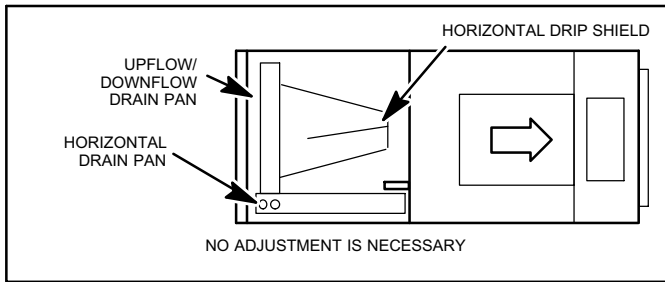

Figure 2. Right-Hand Discharge Configuration
2. No further adjustment is necessary. Set unit so that it is sloped 1/4 inch toward the drain pan end of the unit as illustrate in figure 2 on page 5.